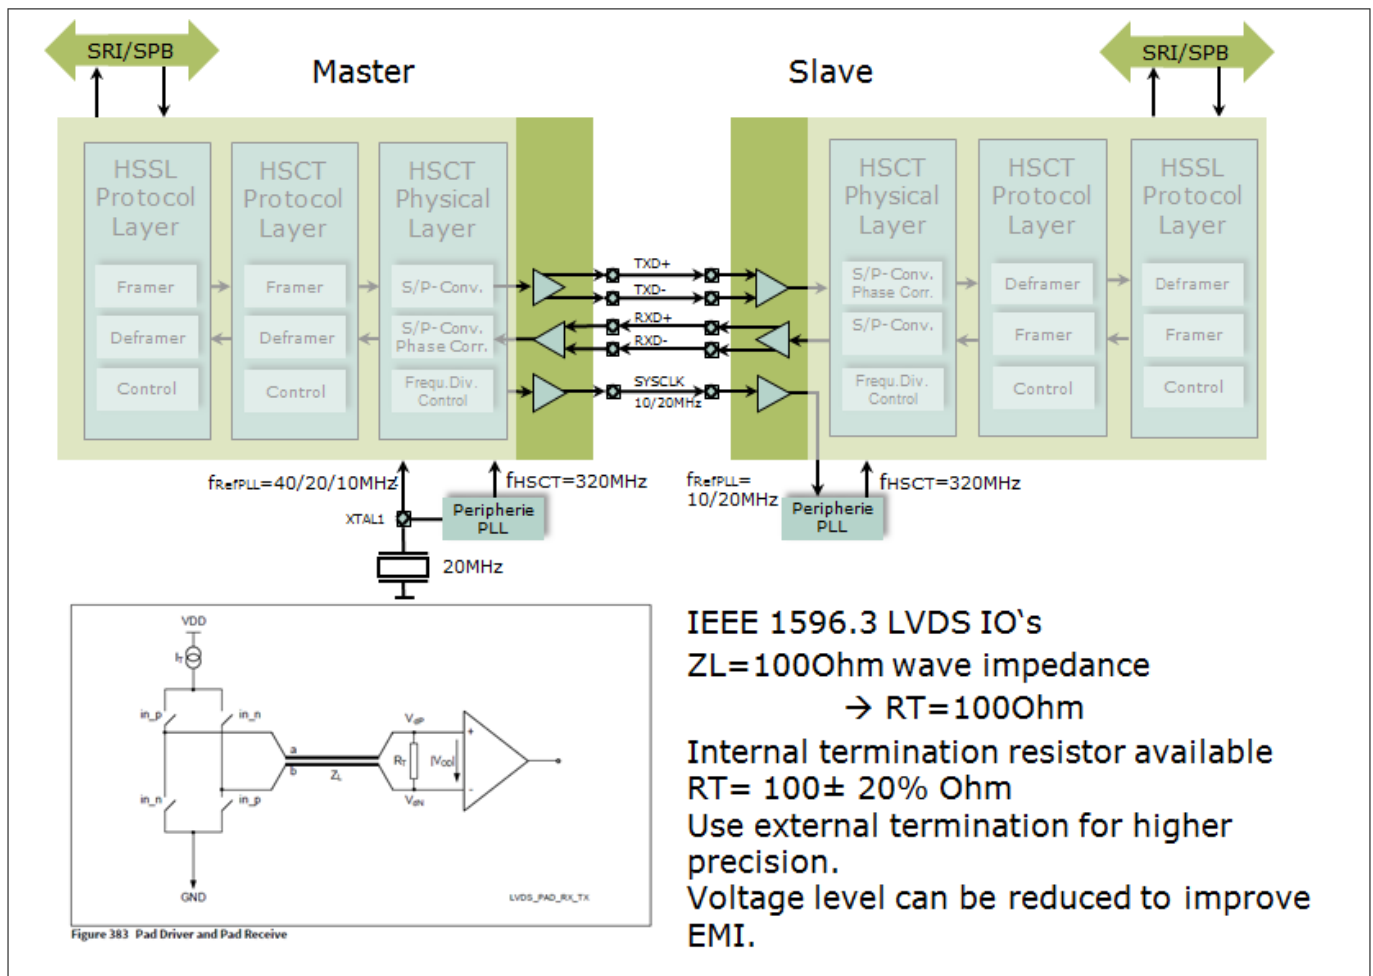

Figure 2 Default HSCT/HSSL configuration, with master and slave at the same supply
- Figure 2 Default HSCT/HSSL configuration, with master and slave at the same supply